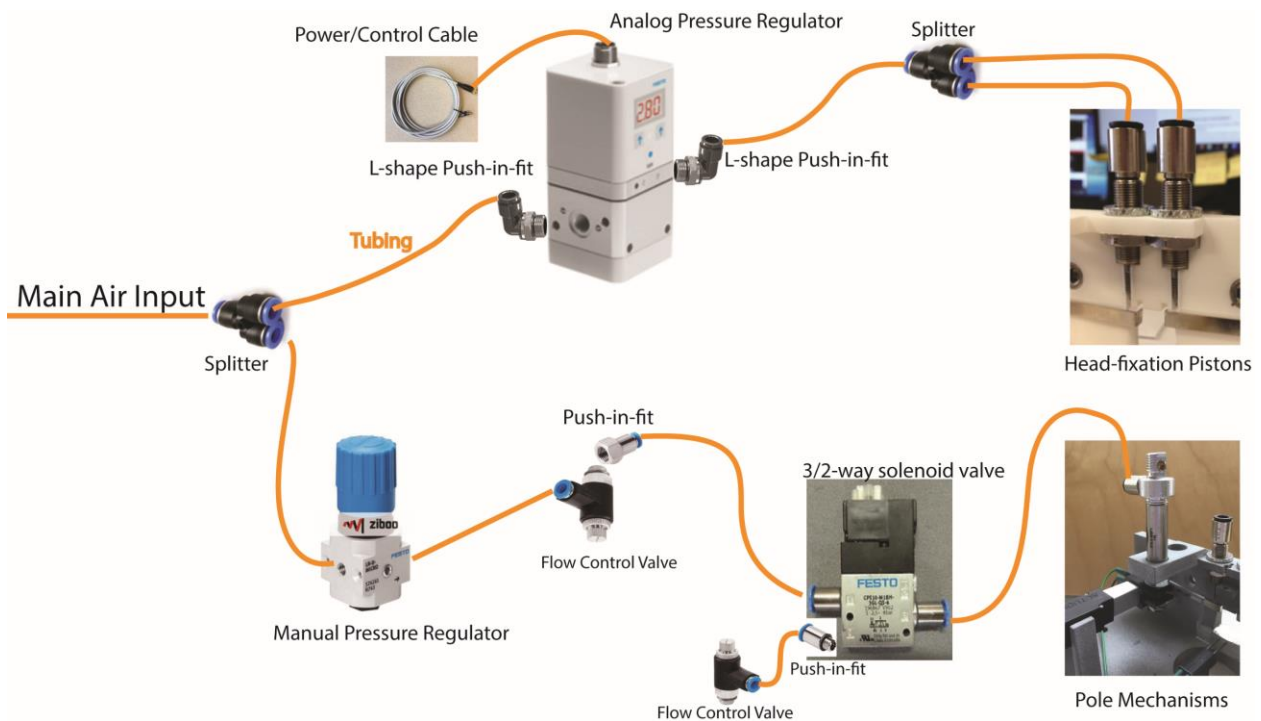

Fig. 6.1
- Connect all the pneumatic parts using 6-mm tubing according to Fig.6.1.